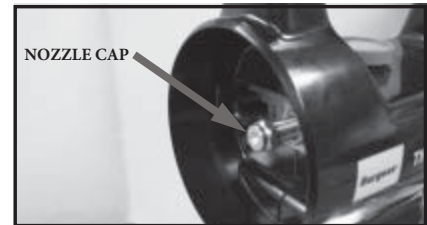

Figure 2
2. Inspect nozzle for any accumulation of any foreign matter. Clean nozzle if needed before using and secure nozzle tightly. **(See Figure 2)**